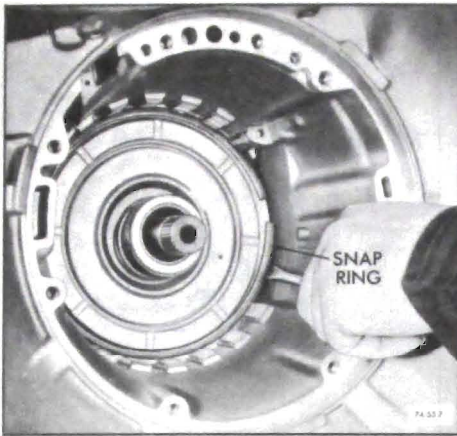

Figure 76-552
14. Remove center support to case retaining snap ring. See Figure 76-552.